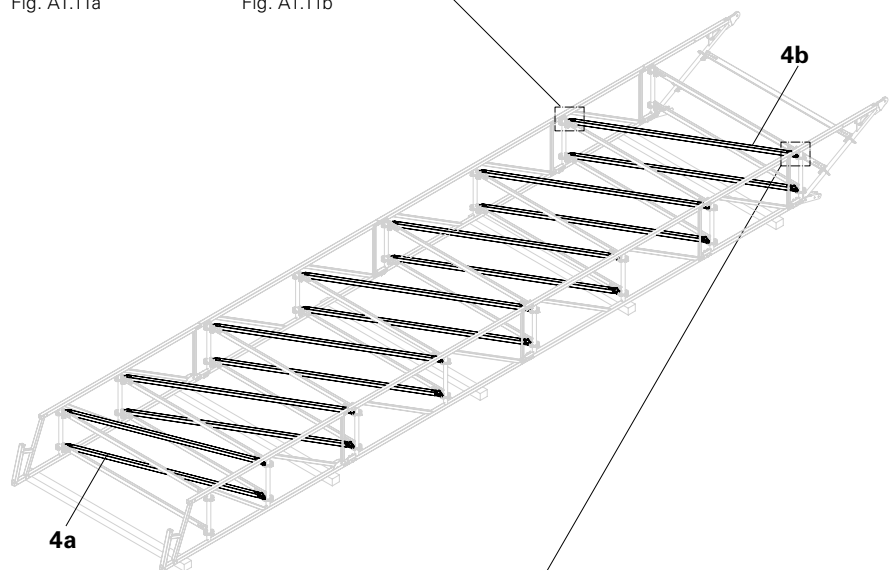

Fig. A1.11
- First girder unit is now ready. (Fig. A1.11)